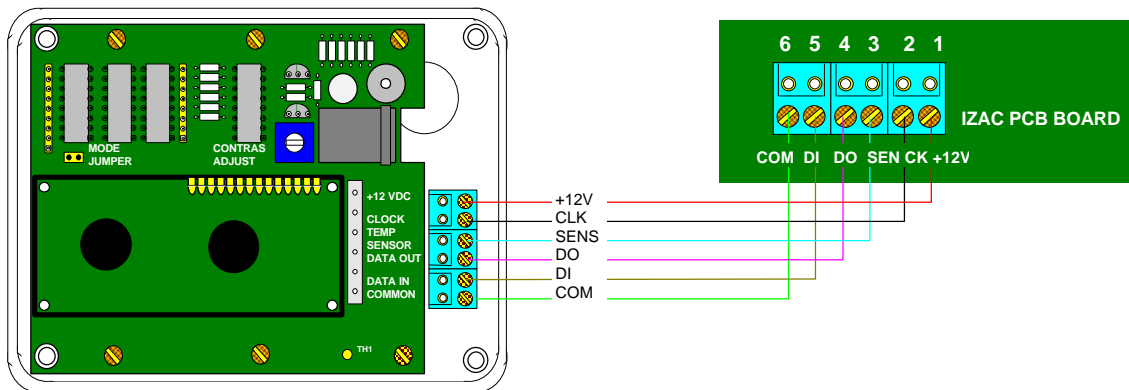

Fig. 2
6. After it is wired and powered , prior to fastening the unit on to the mounting surface , make sure that you check the display contrast level . Adjust the contrast level by turning Contrast adjust potentiometer which is shown on Fig. 2 .